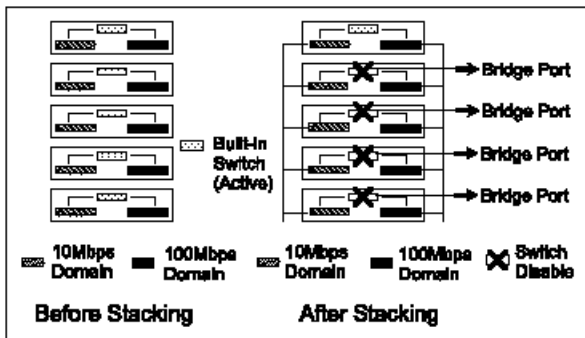

Figure 3-3 Auto Data looping prevention in ALH-608ds.
- The built-in switches in slave hubs will be disabled automatically to avoid data looping from multiple inter-connections of hubs, as shown in *Figure 3-3*.